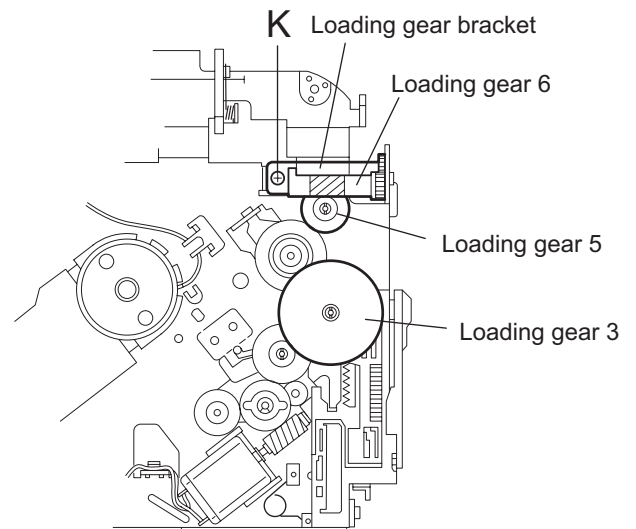

Fig.35
3.2.16 Removing the loading gear 5, 6 and 7 (See Figs.35 and 36)
- Pull out the loading gear 3. (See Fig.35.)
- (1) Pull out the feed gear.